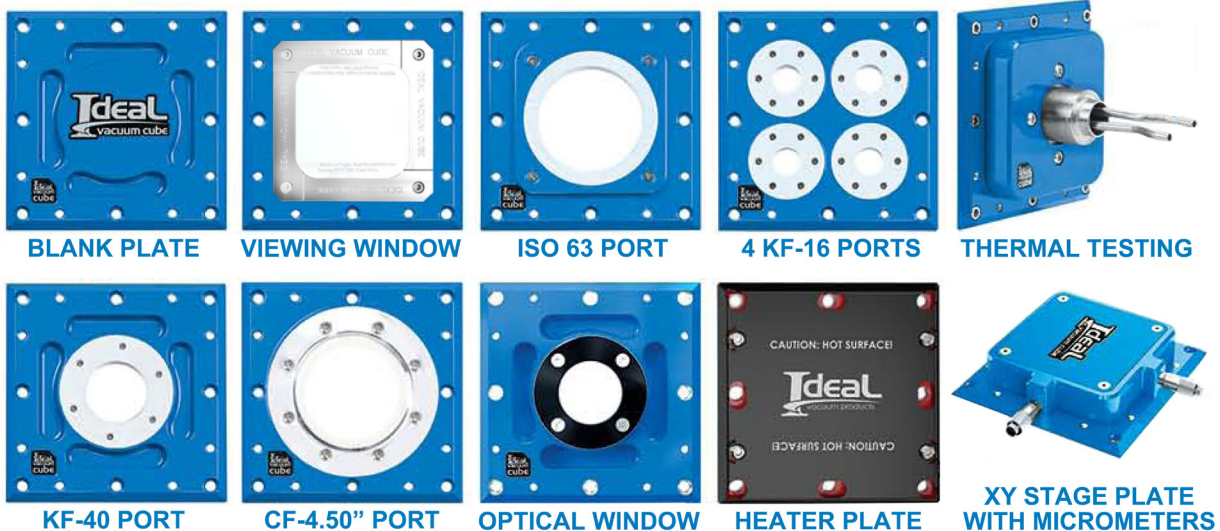

Figure 2 - Some of the available Cube plate options
- Figure 2 - Some of the available Cube plate options5
The entire lineup of Ideal Vacuum [Cube chambers, plates and accessories](http://idealvac.com) is available at idealvac.com. Figure 2 shows just a few of the available standard plate configurations. New plate configurations, frame types, and adapters are offered periodically. Custom plates are available for unique requirements.